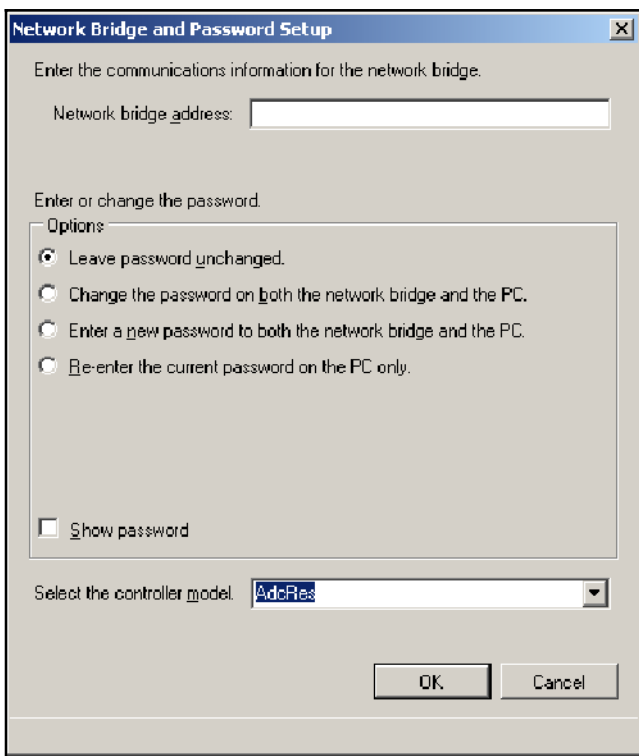

Figure 2-6 Network Bridge and Password Setup
2. Enter the IP address or domain name as shown in Figure 2-6.